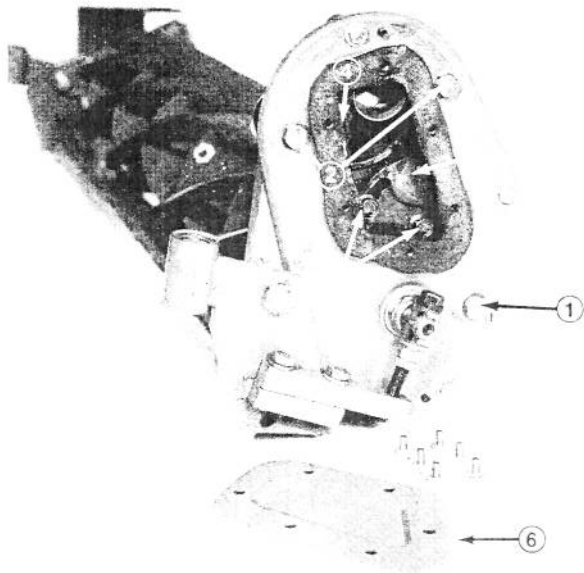
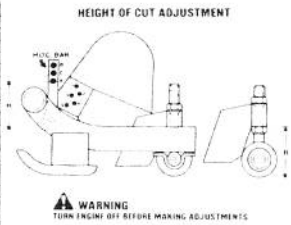

Figure 10
Figure 14
1. Place cutting units on level surface, set height of cut in highest setting (see H.O.C. adjustment, Fig. 14) and remove inspection cover from chain case cover taking care to prevent damage to the gasket. Loosen idler mounting capscrews (Fig. 10).
2. Remove fill plug and add SAE 90W oil to case until it's level with bottom of fill hole (10-11 oz.) Install fill plug (Fig. 10).
4. Remove nuts from capscrews securing shipping cover to chain case, remove cover and slide capscrews back until threaded end is flush with motor mounting surface of case (Fig. 10). Discard nuts.
7. Adjust chain tension to from zero to 1/8 in. (0 - 3 mm) deflection with chain idler assembly (Fig. 10). Chain should not be over tight, but just to point of no deflection. Chain should not exceed 1/4 in. (6 mm) total deflection - 1/8 in. (3 mm) in either direction. Tighten idler capscrew and rotate reel to check tension adjustment. Readjust, if tension is incorrect. Torque idler capscrew to 150-170 in.-lb (17 - 19 N-m) after adjustment is completed.
3. Determine height-of-cut desired; refer to Fig. 14. Adjust tie rod height-of-cut assembly to proper "H" length. Position height-of-cut pin in the indicated hole. Loosen top taper nuts and adjust lower taper nuts to dimension "R" on both sides of cutting unit.
5. If the measured height-of-cut is not equal to desired setting, readjustment is required, refer to height-of-cut chart, Fig. 14. Loosen the upper taper nuts and adjust the lower taper nuts until the desired height-of-cut is obtained.
7. Intermediate height-of-cut settings may be obtained by following the instructions in the chart (Fig. 14) for bracket hole number and height-of-cut bar hole letter.